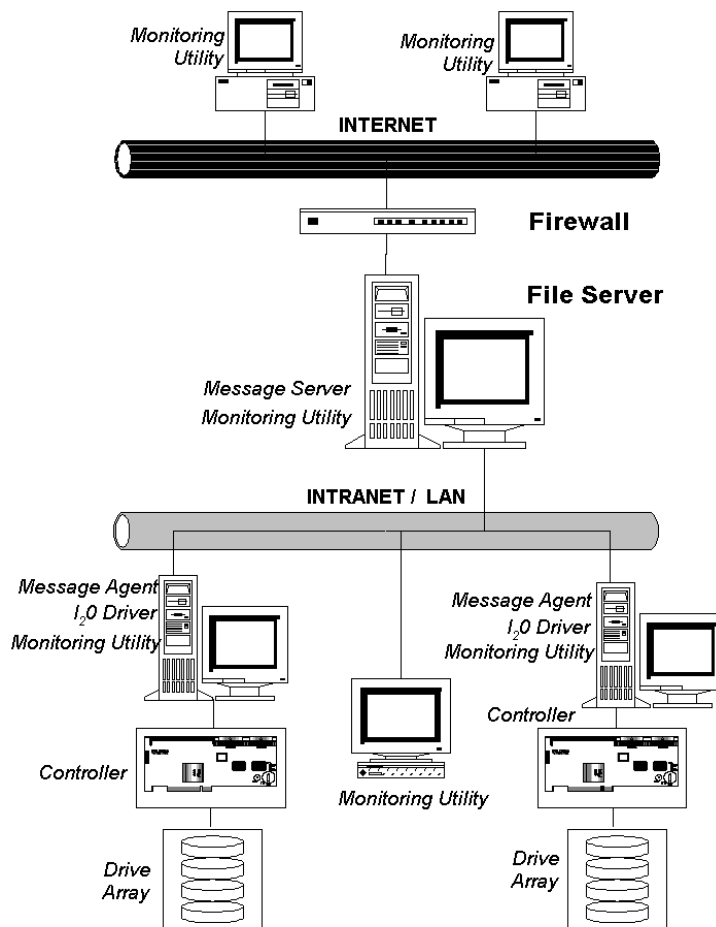

Figure 17: Typical SuperCheck Component Installation
A typical installation of the SuperCheck software components on a network might look like Figure 17 on page 32. The major elements of this network are (from top to bottom):
- (1) **SuperCheck Utility** - The SuperCheck Monitoring Utility (the GUI that you will be using) may be installed on any system element with a TCP/IP connection where you want to perform monitoring. As shown in Figure 17, the SuperCheck utility is installed on the main File Server, on both SuperTrak66 stations, on two remote systems over the Internet, and on one internal system. *NOTE: For security reasons, array maintenance features can only be performed at the actual server location of a SuperTrak66 array and are unavailable at all other consoles.*
- (2) **Message Server** - The Message Server software component serves as the main link between all SuperTrak arrays residing on the network, the internal Intranet/LAN (via TCP/IP protocols), and remote monitoring stations communicating via the Internet. For remote Internet monitoring, the Message Server component must be installed on a machine with a unique IP address that is visible to the Internet (as in our example). From its central communications position, the Message Server software interfaces with all SuperTrak arrays located on the LAN and allows all system elements (with the GUI installed) to see those arrays. The File Server where the Message Server software is installed may or may not house a SuperTrak array. In our example on Figure 17, it does not. One reason may be that the File Server is not running Windows NT 4.0.
- (3) **Message Agent** - The Message Agent software component must be installed on each file server that will house a SuperTrak array. The Message Agent communicates with both the Message Server and the SuperTrak66 controller. Installing the Message Agent automatically installs the I2O device driver. *NOTE: All stations containing SuperTrak66 must be running Windows NT 4.0. Maintenance on SuperTrak arrays can be performed only using these stations.*
- (4) **I2O Device Driver** - Installed automatically with the Message Agent, the driver allows the station to communicate directly between the Promise SuperTrak controller card and Windows NT. This permits Windows NT to recognize RAID arrays attached to it.